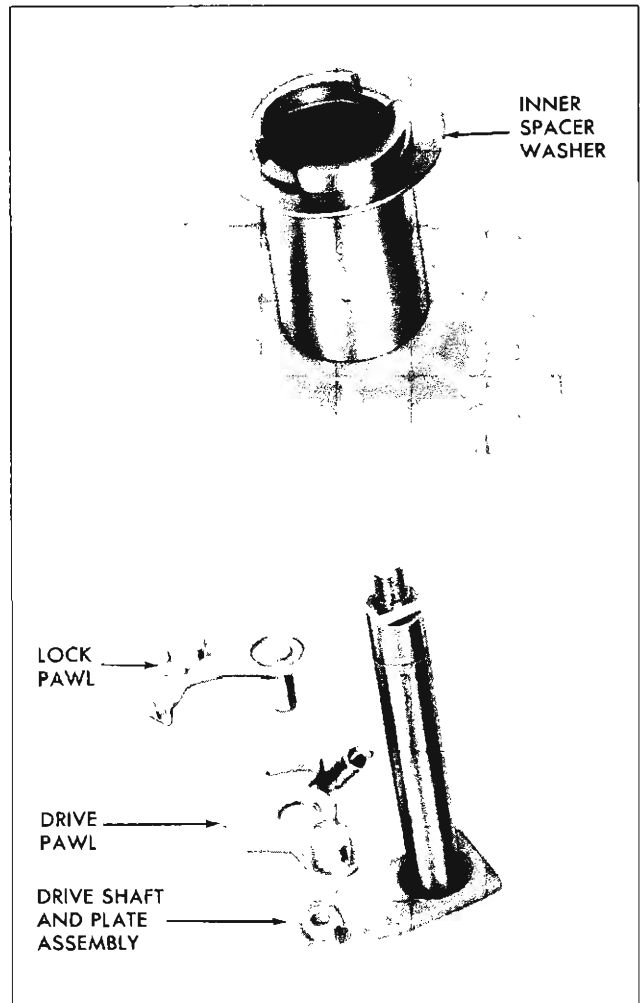
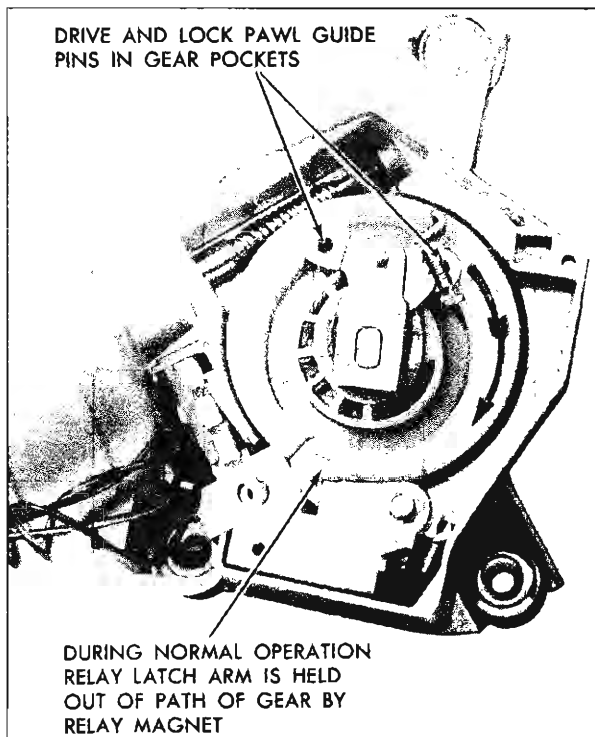

Fig. 72—Drive Gear and Shaft Assembly
Fig. 73—Drive and Lock Pawl Guide Pins in Pockets
3. Slide gear and tube over the drive shaft (fig. 72). (Move drive and lock pawls as required to allow their respective pins to fit in the gear guide channel (fig. 73).
4. Holding the gear, manually rotate the drive plate until the drive and lock pawl guide pins snap into their respective pockets in the gear (fig. 73).
5. Reinstall coil spring between lock and drive pawls (fig. 73).